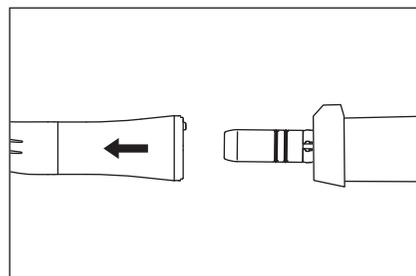

Fig.21
- 4) Remove the handpiece from the motor. (Fig.21)